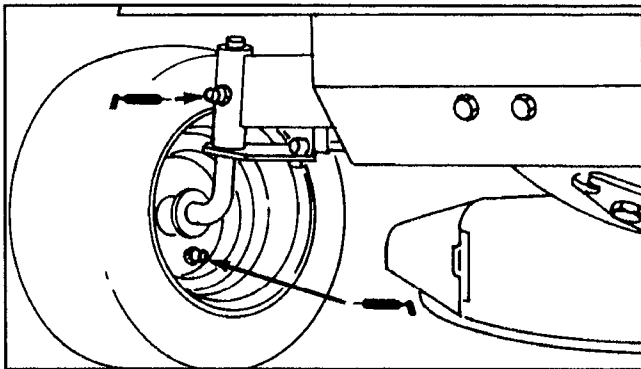

Figure 12
1. Wipe grease fittings (Fig. 12) with a clean rag. If there is paint on front of fittings, scrape it off.
2. Grease front wheels and axle spindles with No. 2 general purpose grease (Fig. 12). Pump grease until it oozes out the spindle. Wipe up any excess grease.